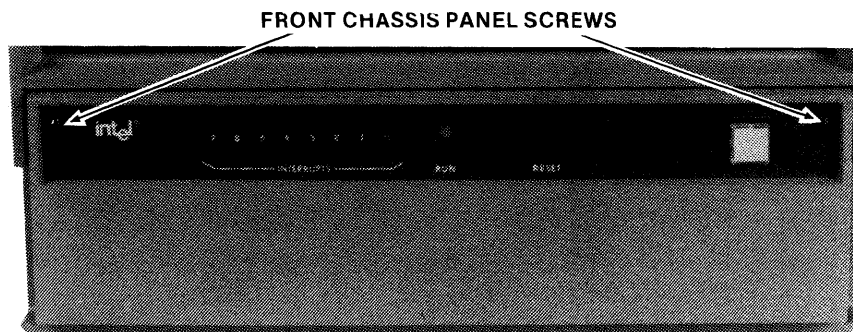
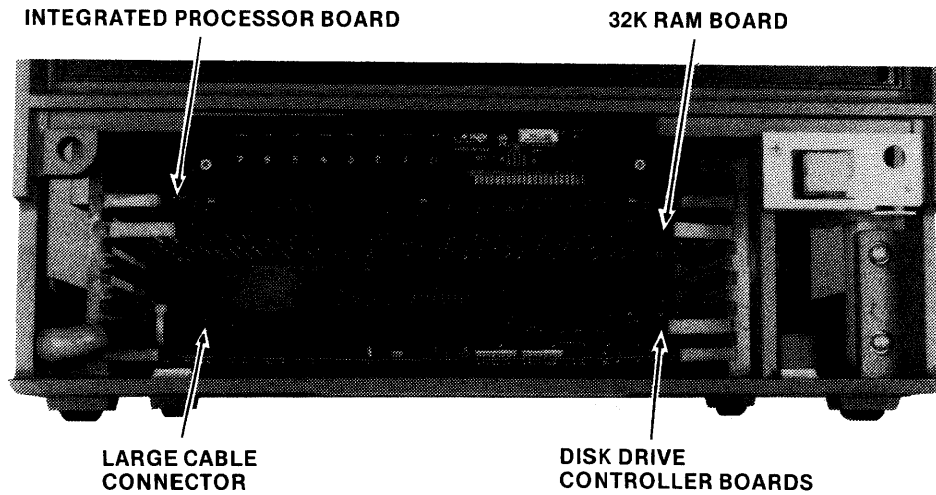

Figure 2-8. Intellec Series II Front Chassis Panel
Figure 2-9. Intellec Series II Cardcage
9. Face the front of the system, as shown in Figure 2-8. Remove the front chassis panel by rotating the two mounting screws counter-clockwise and pulling the panel off. Remove the foam packing material. Refer to Figure 2-9, which shows the boards in their slots in the cardcage. Remove the printed circuit board